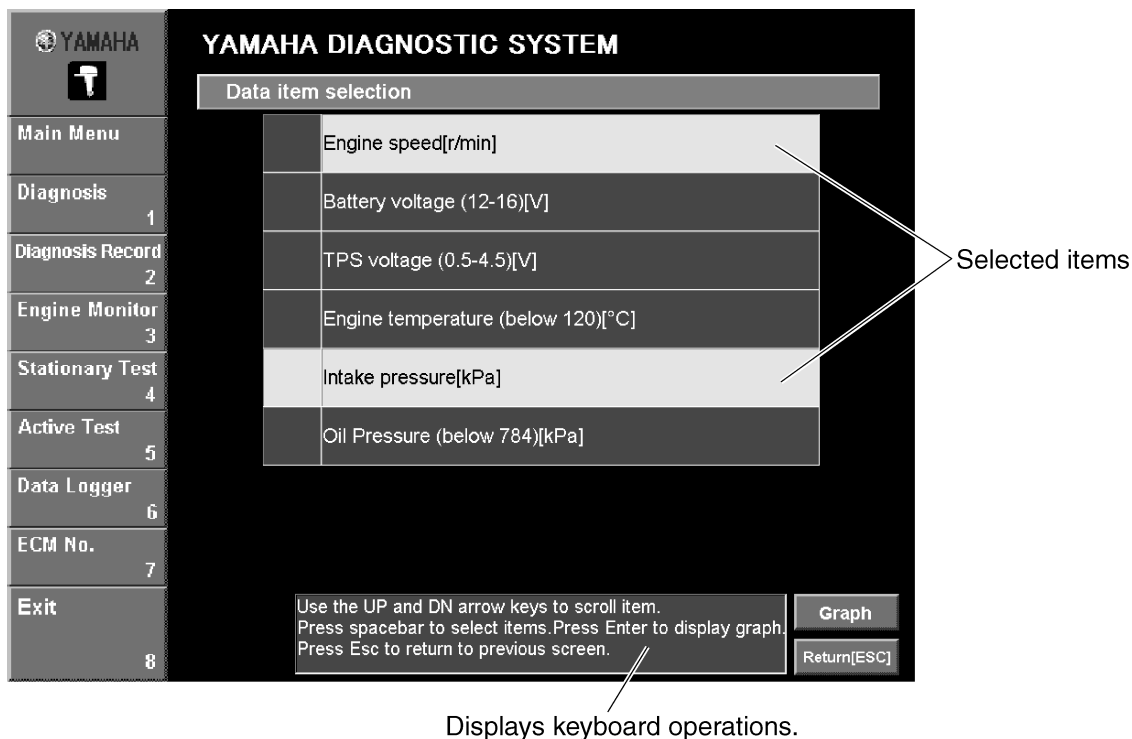
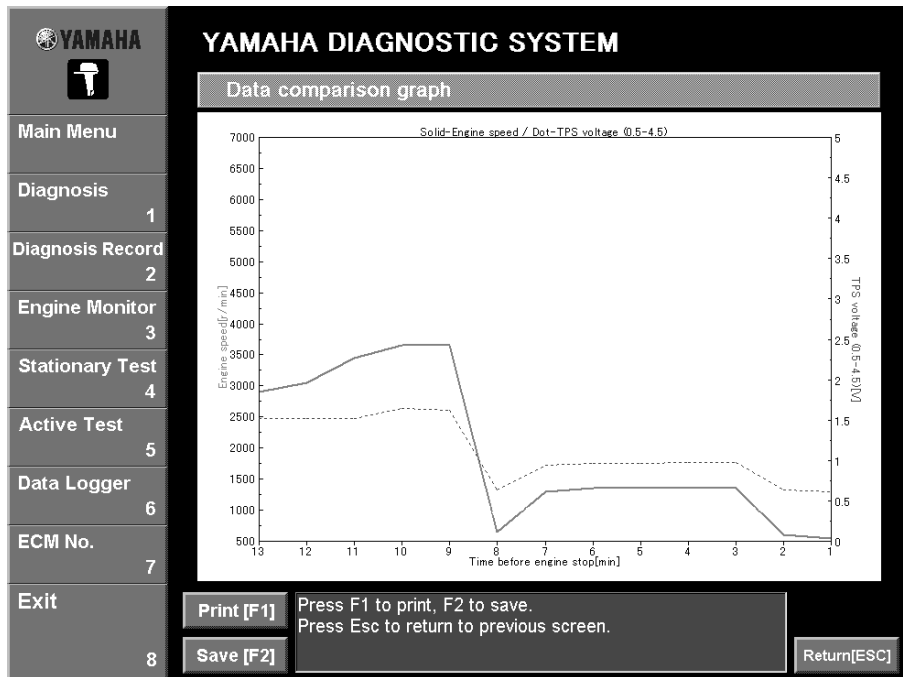

Fig. 54
Fig. 55
1. Select the desired items by either clicking them or pressing the up or down arrow keys on your keyboard, and then press the space bar. (Fig. 54)
2. Click the **Graph** button or press the Enter key on your keyboard. (Fig. 54) The **Data comparison** window is displayed. (See fig. 55.)
A line graph appears with the items selected in the **Data display item selection** window on the vertical axes and the **Time before engine stop** on the horizontal axis. (Fig. 55)